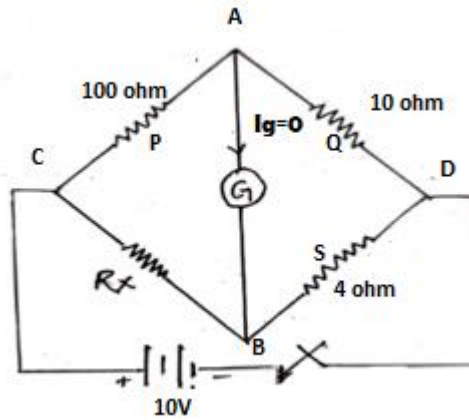

Fig.2b
- b) A Wheatstone bridge circuit arrangement is as shown in fig 2b. Calculate the unbalanced current in the galvanometer of internal resistance 20Ω , when the supply is 10V. Also determine the value of unknown resistance corresponding to the null reading of the galvanometer. **08**